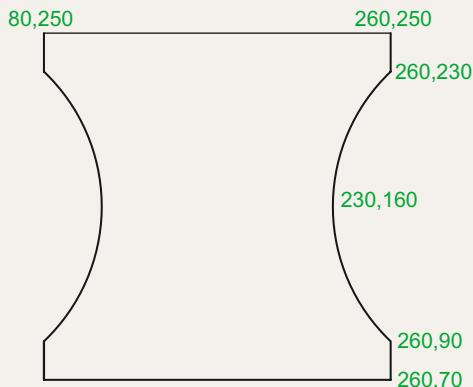

Fig. 3.44 Exercise 1
1. Using the **Line** and **Arc** tools, construct the outline given in Fig. 3.44.